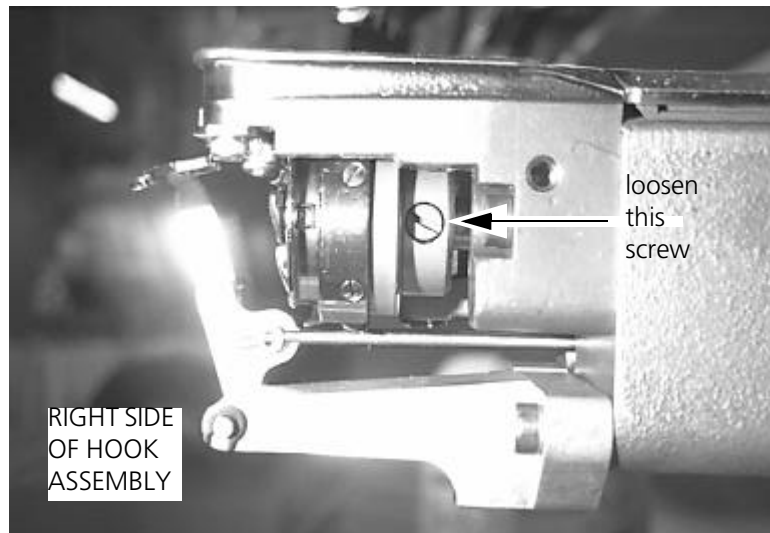

Figure 4-1
5. Locate the screw that is visible on the right side of the hook assembly as shown in Figure 4-1. Loosen this screw one or two turns.
6. In the Z Position section of the Service menu, enter 60 in the text field and click the right arrow (>>) button. The hook should rotate to the position where the second screw is visible, also as shown in Figure 4-1. Loosen this screw one or two turns.